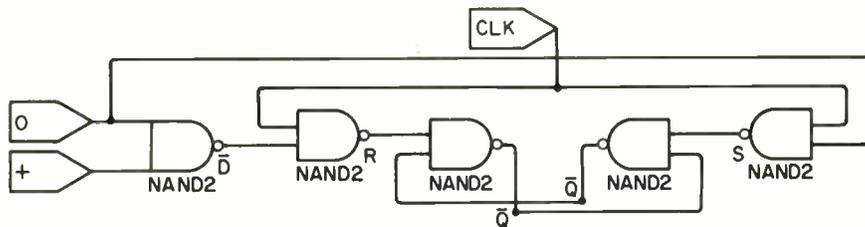

Fig. 2. Classic example circuit.
**Classic.** As an example of Classic, from Plessey Semiconductors, consider a circuit consisting of five Nand gates and a clock-signal-input (clk) to two of the gates (Fig. 2)